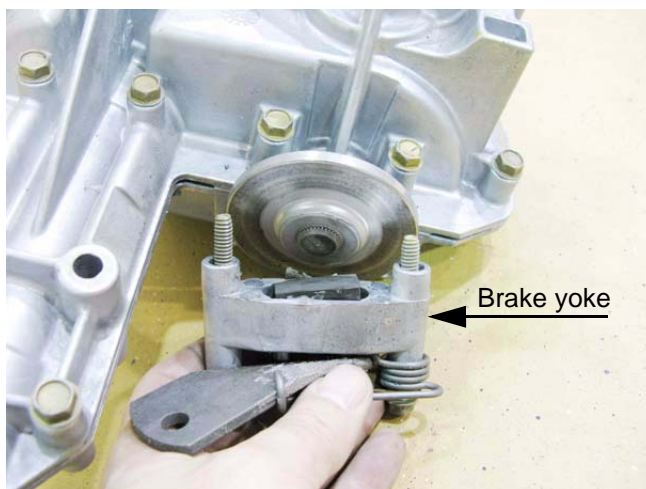

Figure 5.62
- 6b. Unbolt the brake yoke from the transaxle using a 3/8" wrench. See Figure 5.62.